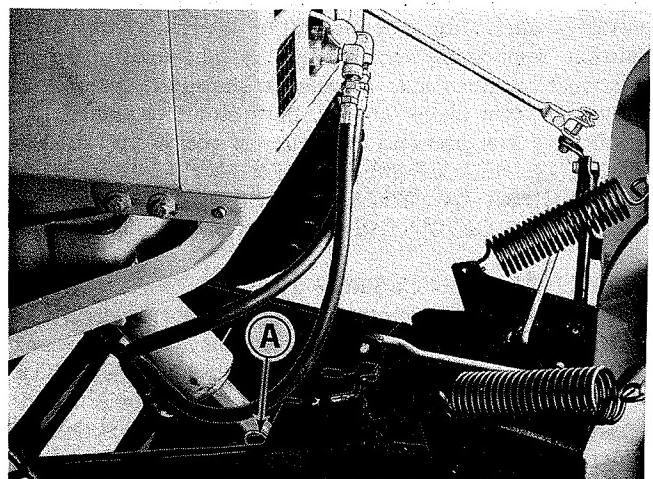

Figure 7. Hydraulic cylinder attached to blade.
6. See figure 7. Attach the rod end of the hydraulic cylinder to the grader blade at (A) using a pin and spring clip. It may be helpful in doing this to extend the rod end of the hydrau-
3. See figure 7. Disconnect the rod end of the hydraulic cylinder from the snow plow and dozer blade by removing the pin and spring clip at (A).
6. See figure 7. Remove the spring clip and pin at (A) to release the hydraulic cylinder from the snow plow and dozer blade hitch.